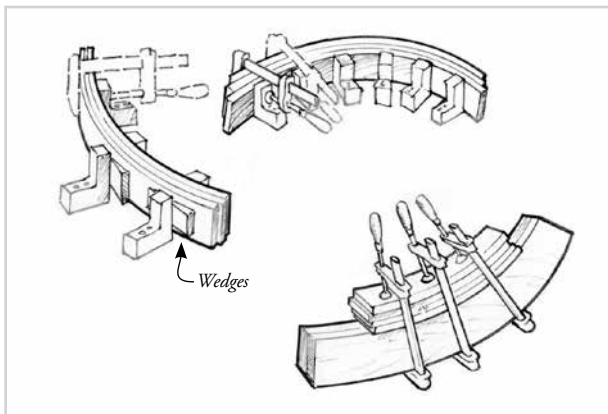

Figure 3-8 Transfer the desired stringer profile to a laminating jig.
panel at the stringer locations. Transfer the pattern line to a laminating jig of one the types illustrated (Figure 3-8). Laminate frames in a jig as follows:
3. Stack the coated strips in the jig. Clamp the strips in place using clamps (Figures 3-8 and 3-9), wedges, staples or small nails. Apply enough pressure to squeeze a small amount of epoxy from each joint. Clean up excess epoxy before it begins to cure. Leave clamps in place until the epoxy cures.